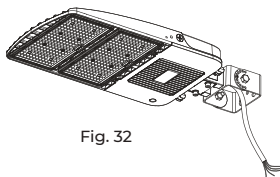

Fig. 32
3. Tighten the cover plate to the bracket as shown in Fig.32.